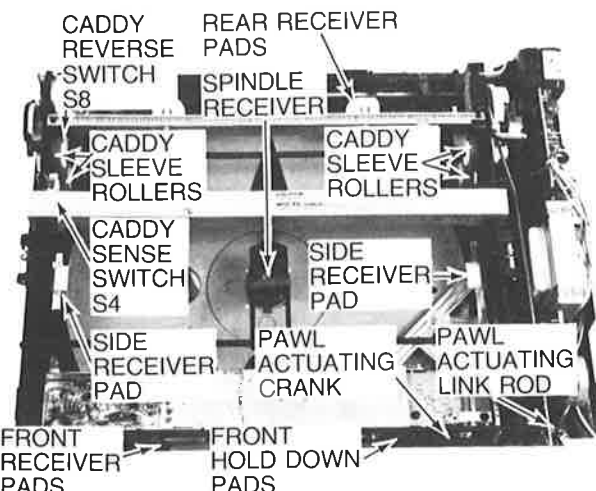

Fig. 5—Mechanism Identification
When the caddy sense switch, S4, is activated (closed), power is applied to the function motor. The caddy (sleeve) rollers begin to rotate, they grasp the caddy (sleeve) pulling it into the player. The caddy (sleeve) then activates (closes) the caddy reverse switch, S8. As caddy (sleeve) insertion nears completion the rear receiver pads are lowered, the caddy (sleeve) lock defeat tabs enter the end of the caddy (sleeve) on either side unlocking the spine tabs which hold the spine and VideoDisc captive in the caddy (sleeve). At the same time the spine latch tabs, are pushed up and over the end of the spine and drop into their latching position holding the spine and VideoDisc captive in the player. The spine sense switch, S5, is also activated (closed) at this time and the side indicator switch, S6, is either activated (closed) or left "off" (open) depending upon which side of the disc is being played. The function motor stops for approximately one (1) second before it begins running in the reverse mode (See Figs. 5 & 6).
As the caddy (sleeve), now empty, begins its ejection travel from the player—the caddy (sleeve) lock defeat tabs (spring loaded) pop up above the spine to the position necessary for performing their function during the "unload" process. The rear receiver pads rotate up to their normal position to support the disc and spine. The caddy (sleeve) reverse switch, S8, is deactivated (opens), however the function motor continues to run. When the caddy (sleeve) is released by the caddy rollers it must then be manually removed from the player. As the caddy (sleeve) is being manually removed from the player—the caddy sense switch, S4, is deactivated (opens), the side receiver pads (spring loaded) raise up to support the spine, the front receiver pads (spring loaded) raise and the spine holddown pads (also spring loaded) lower to support the disc and spine. The last item to be released is the Pawl Actuating Crank, which is used to prevent the function gear actuating pawl from being tripped during the time a caddy (sleeve) is in the player (See Figs. 5 & 6).